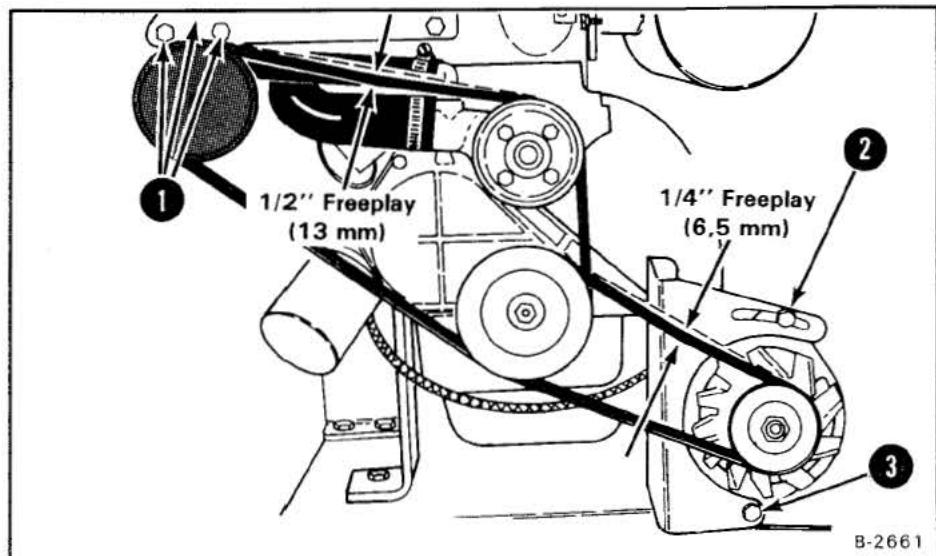

Fig. 54 Adjusting Belt Tension
- Loosen the bolts for adjustment of the governor (Fig. 54, Item 1). Use a bar and set belt tension to  $1/2''$  movement at the middle of the belt with 20 lbs. (9,07 kg) pressure (Fig. 54). Tighten the bolts.